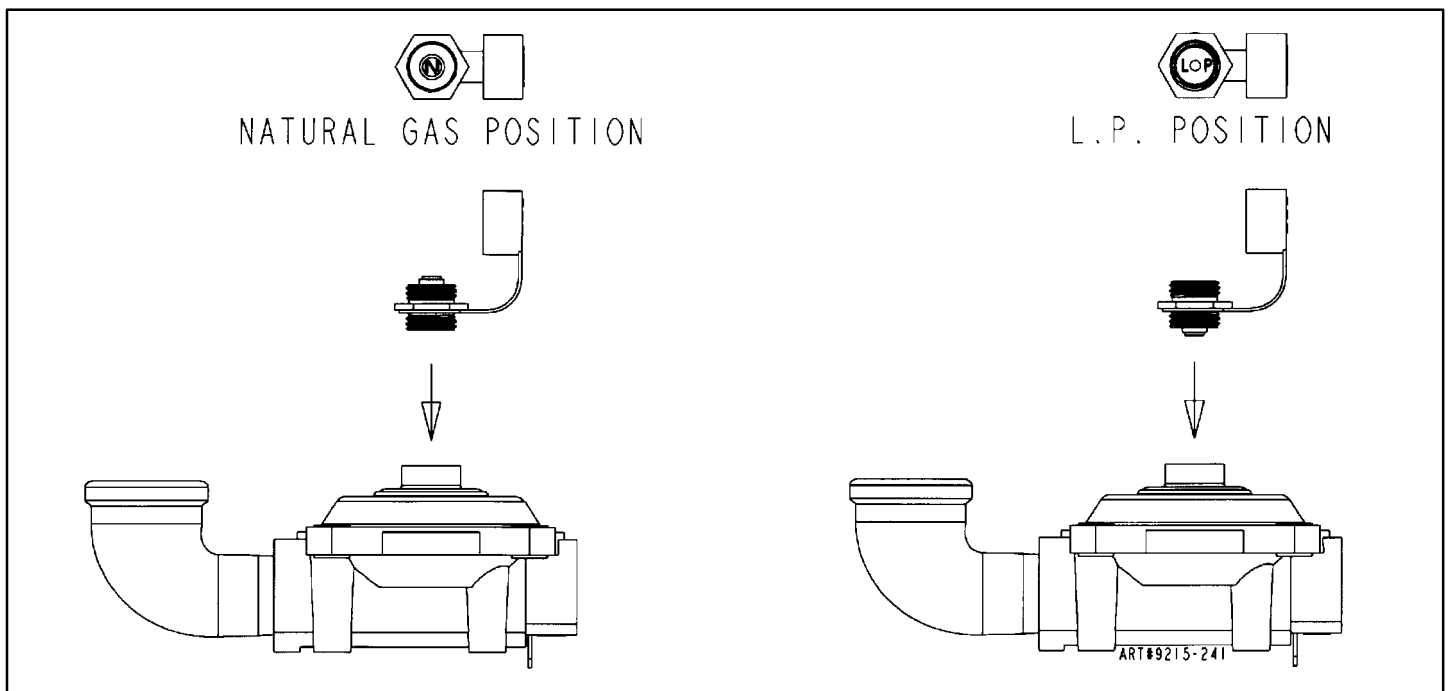

FIGURE 6
- Reinstall cap nut to appliance pressure regulator and replace dust cover. "CAUTION" be sure marking for the type of gas to which appliance pressure regulator has just been converted is visible in top of cap nut before replacing plastic dust cover. (See figure 6).